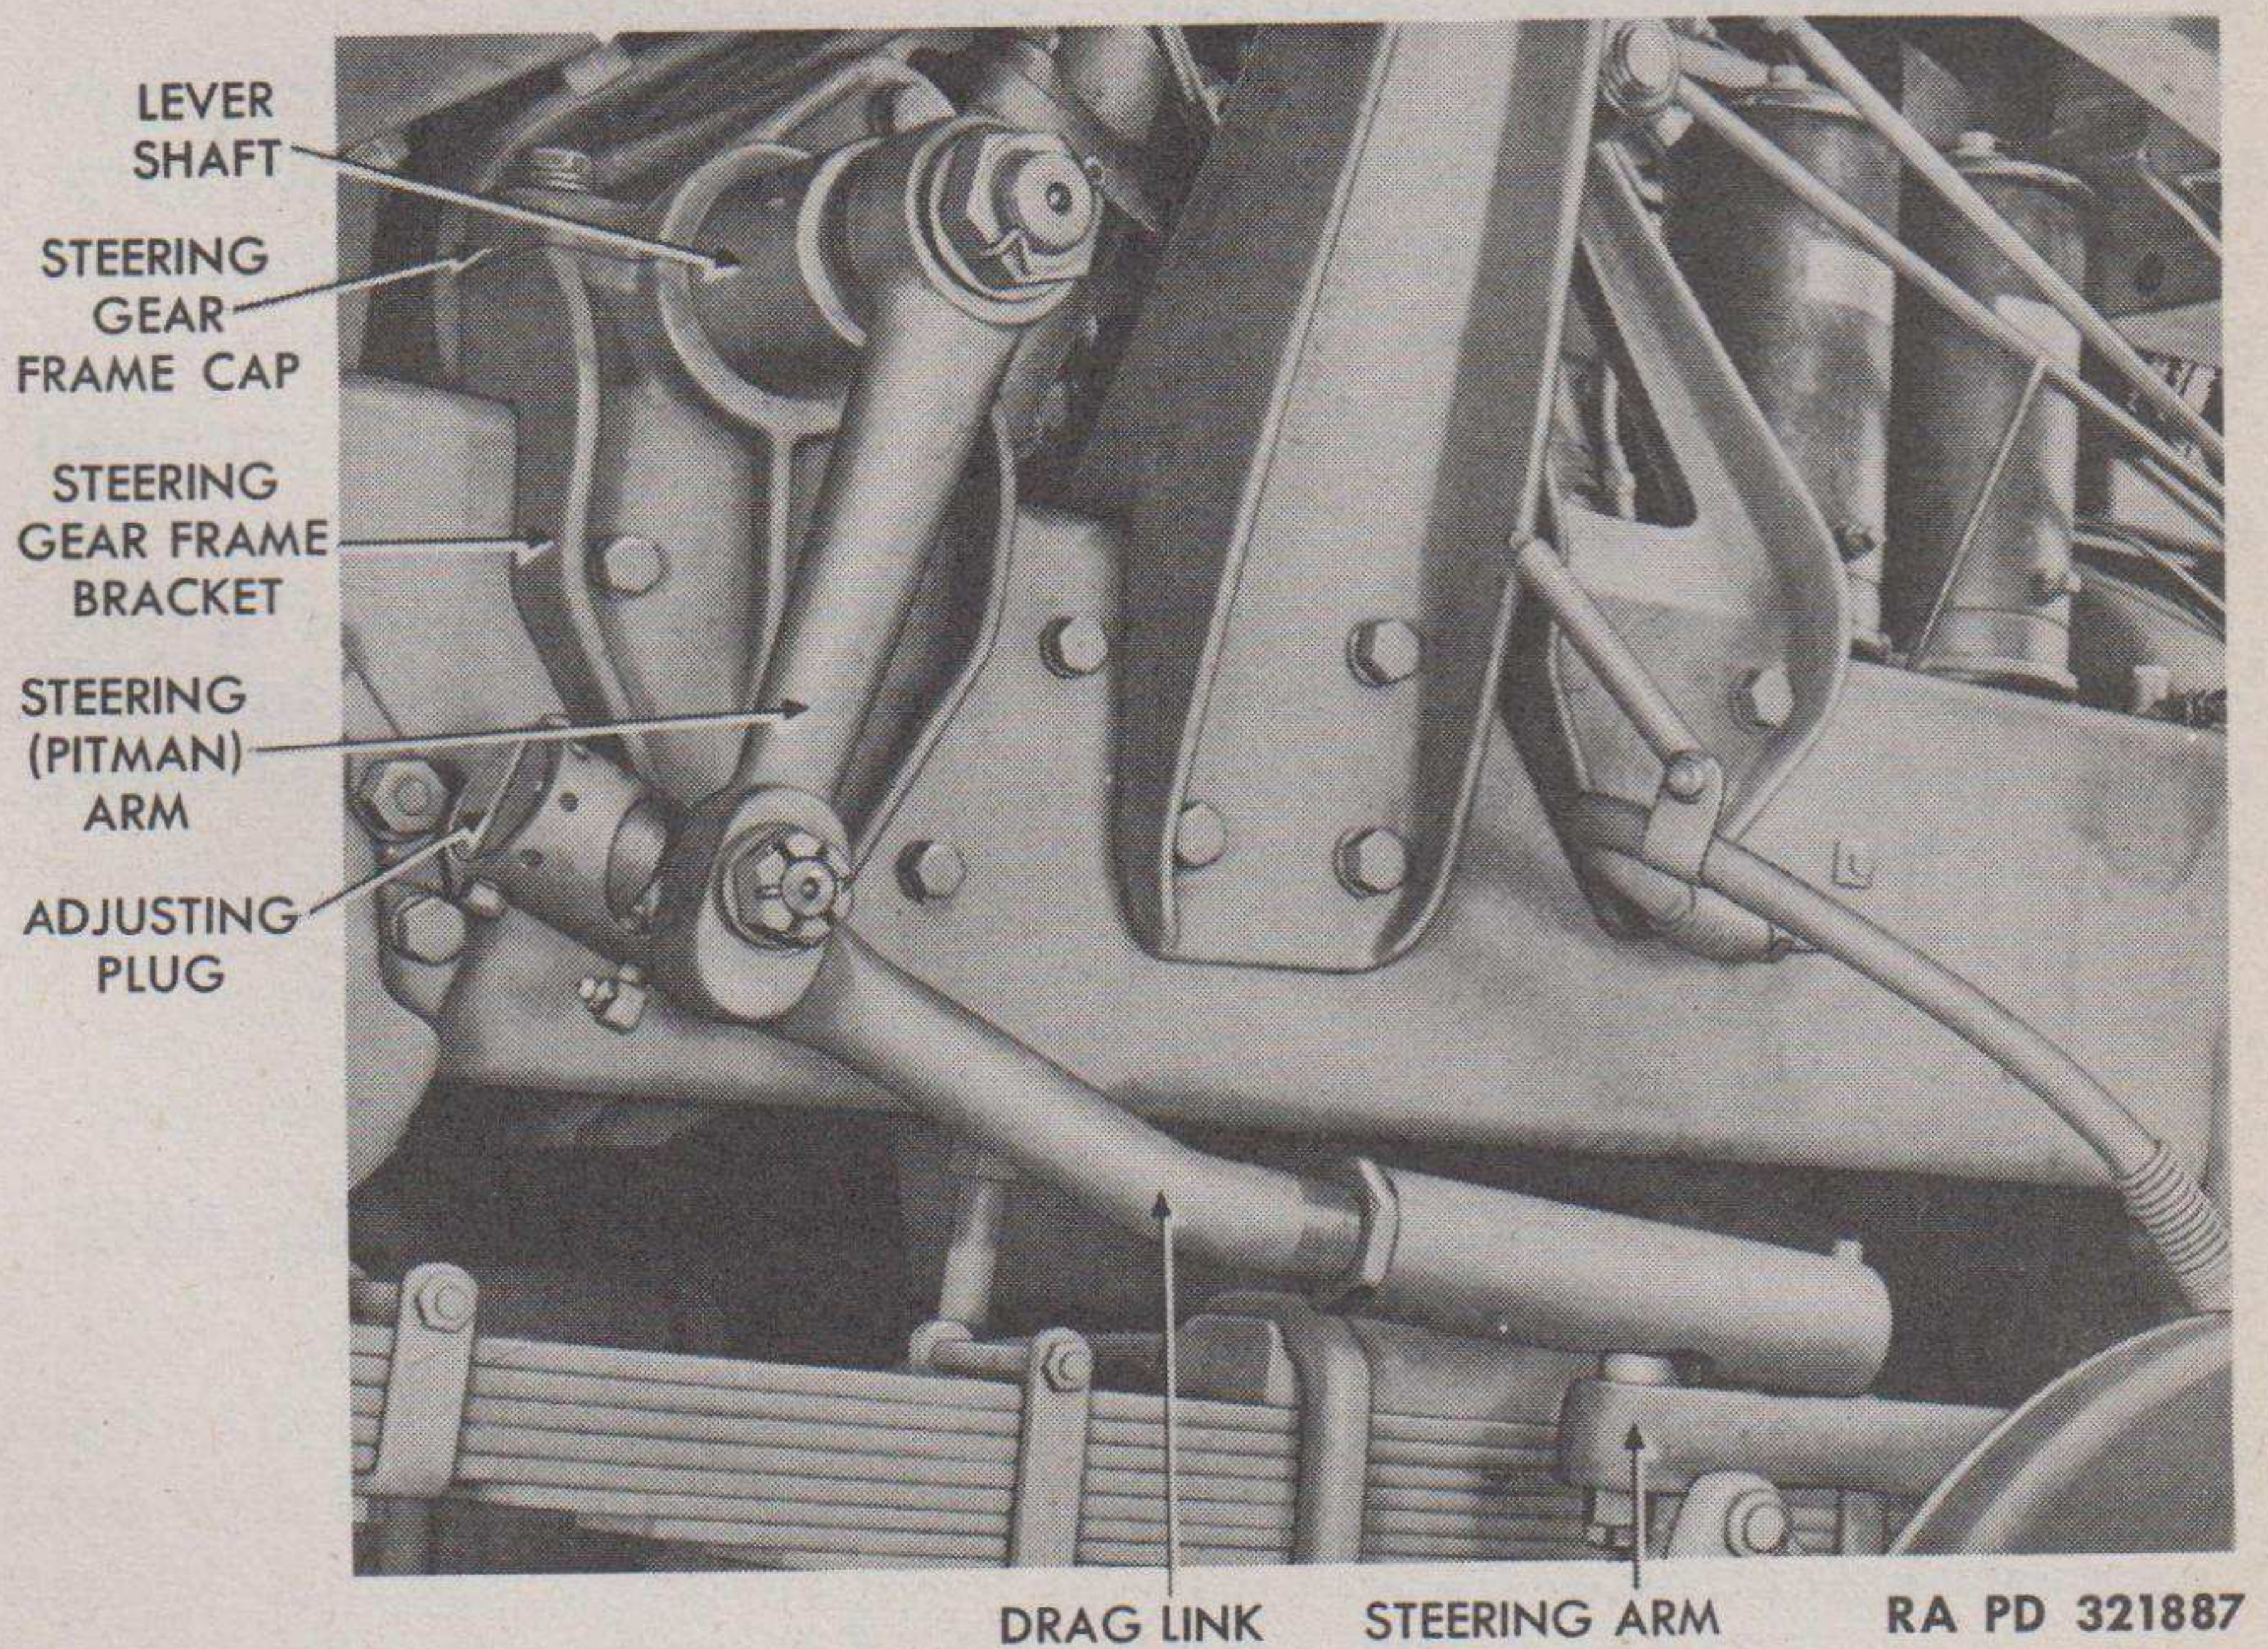

Figure 63 — Drag Link Installed
i. **Disconnect Steering (Pitman) Arm** (fig. 63). Remove cotter pin, nut, and lock washer which secure arm to tapered spline end of lever shaft. Tap arm from shaft. Disconnect arm from drag link by removing cotter pin and nut.
c. **Connect Steering (Pitman) Arm** (fig. 63). Tap steering arm on tapered spline end of lever shaft. Secure with lock washer, nut, and cotter pin. Attach drag link to arm.